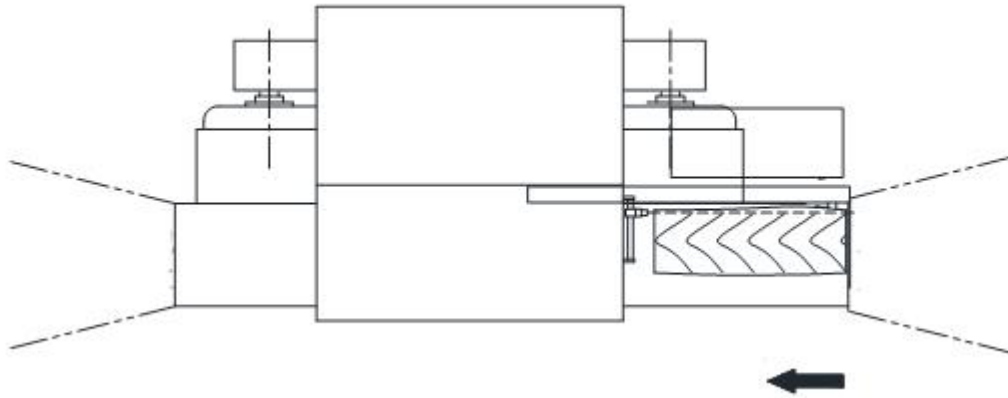

Figure 1-1 (This drawing is only a sketch map, please refer to the actual sample)
9. Before operating the machine tool, the relevant personnel should clearly understand the feeding direction of the machine tool and the area where the work piece bounces off (See figure 1-1 for details).
10. When using the machine tool, the operator and personnel on site shall not stand directly in front of the inlet and outlet of the workpiece to avoid personal injury caused by the workpiece's discharge or rebound (see figure 1-1 for details).